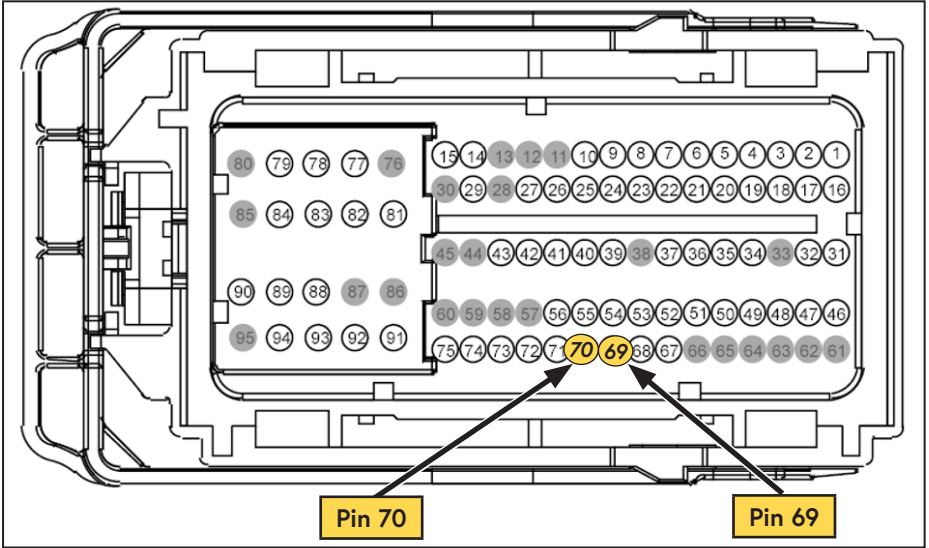

Figure 75 — 2016+ Model year C175E connector
- Locate the yellow wire with the purple stripe at pin 70 and the green wire with the brown stripe at pin 69 (Figure 75).